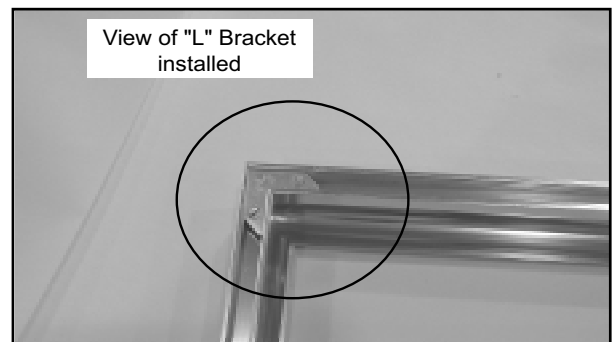

Figure 19.4
2. Assemble the gold trim with the (2) corner brackets provided. **Figure 19.4.**